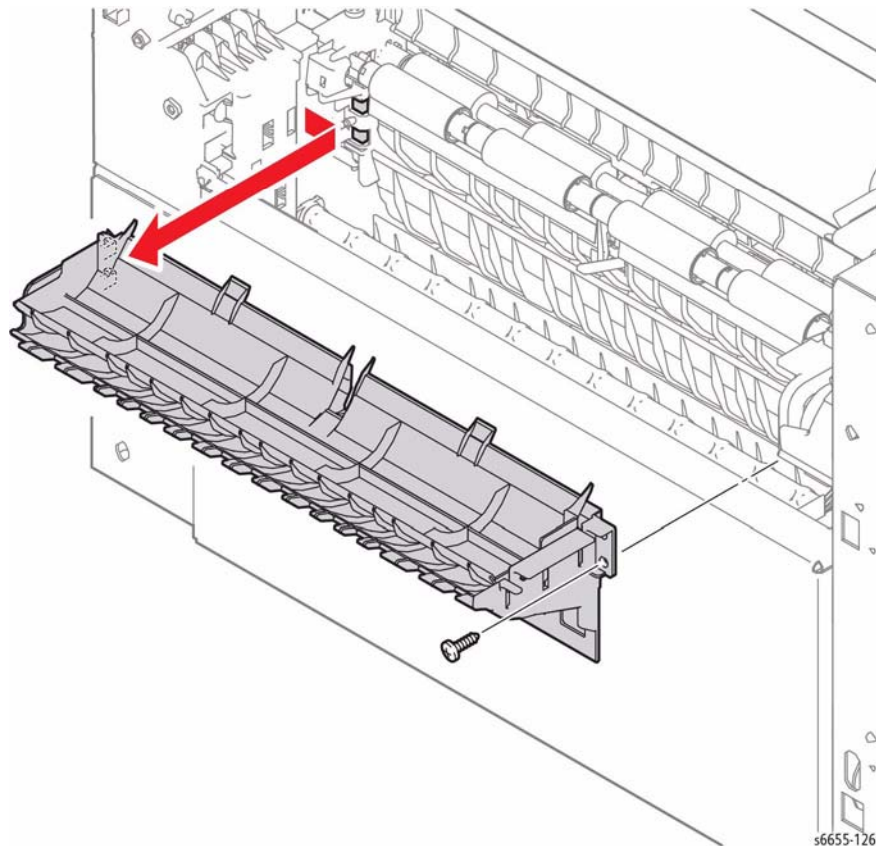

Figure 1 Remove the Upper Duplex Chute with the Duplex Registration Chute
4. Refer to Figure 1 to locate and release the screw (silver, tapping, 8 mm) that attaches the Duplex Chute Assembly. Release the two hooks and remove the Duplex Chute Assembly. (Note: the Duplex Chute Assembly comprises the Upper and Lower Duplex Chutes which are attached together.)